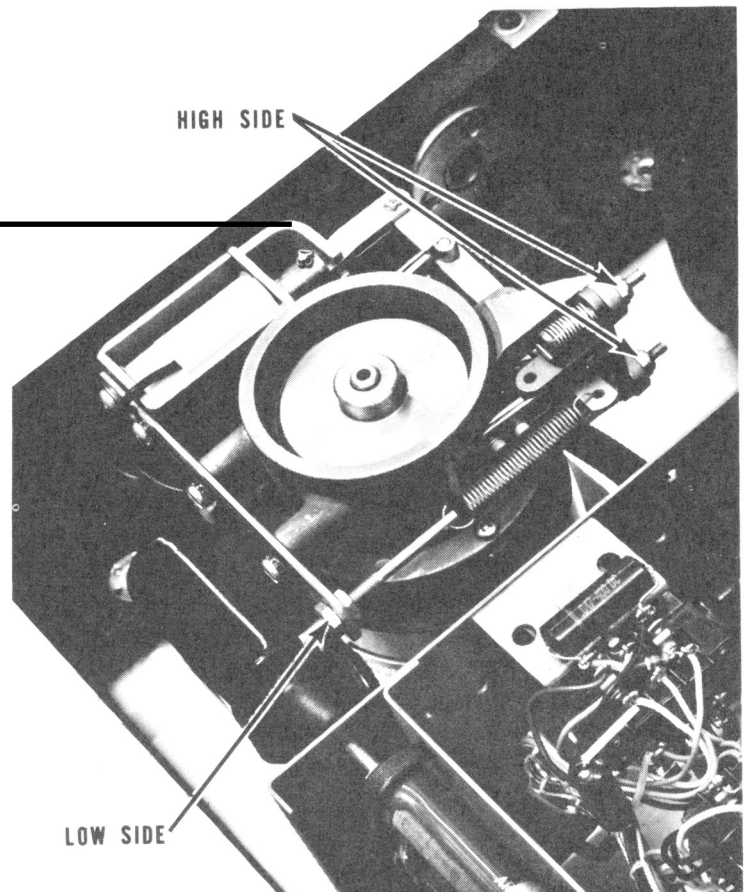

Fig. 4-2 Brake Adjustment Points
- 6) If the indication in Step 5 is incorrect, adjust the "high" braking force with the two nuts indicated in Fig. 4-2. Run the nuts in to increasing braking force, out to decrease. Be sure both nuts are turned in and out an equal number of turns.
- 7) Wrap the cord on the supply reel in the clockwise direction and repeat Steps 4 and 5, using the appropriate scale. The indication should be 1/2 that obtained for the counterclockwise rotation (+2, -1 ounce). If necessary, adjust the "low" braking force at the point indicated in Fig. 4-2.